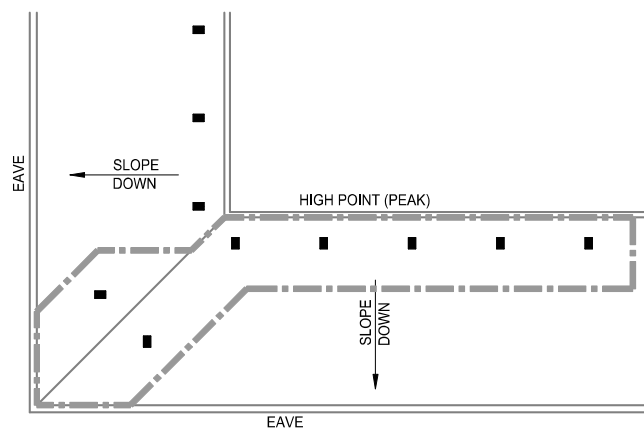

FIGURE 21A: 1 ROW PROTECTION CALCULATION
- Calculate the 5 most hydraulically demanding contiguous DS sprinklers located along the high point plus the 2 most demanding sprinklers along the hip line. See FIGURE 21A.